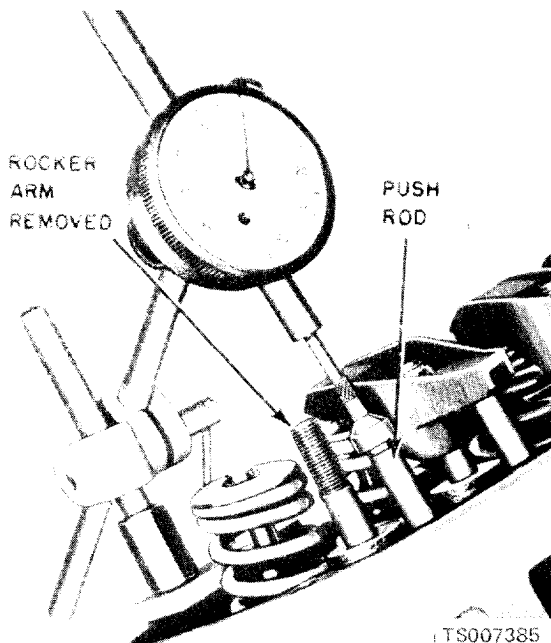

Figure 6-56. Checking Camshaft Lobe Lift.
(1) Remove rocker arm cover. Remove rocker arm stud nut, fulcrum seat and rocker arm. Use an adapter as illustrated (fig. 6-56) for ball end pushrods.
(2) Make sure the pushrod is in the valve lifter socket. Install a dial indicator so that the actuating point of the indicator is in the pushrod socket (or the indicator ball socket adapter is on the end of the pushrod) and in the same plane as the pushrod movement.
(3) Disconnect the brown lead (I terminal) and the red and blue lead (S terminal) at the starter relay. Install an auxiliary starter switch between the battery and S terminals of the starter relay. Crank the engine with the ignition switch OFF.